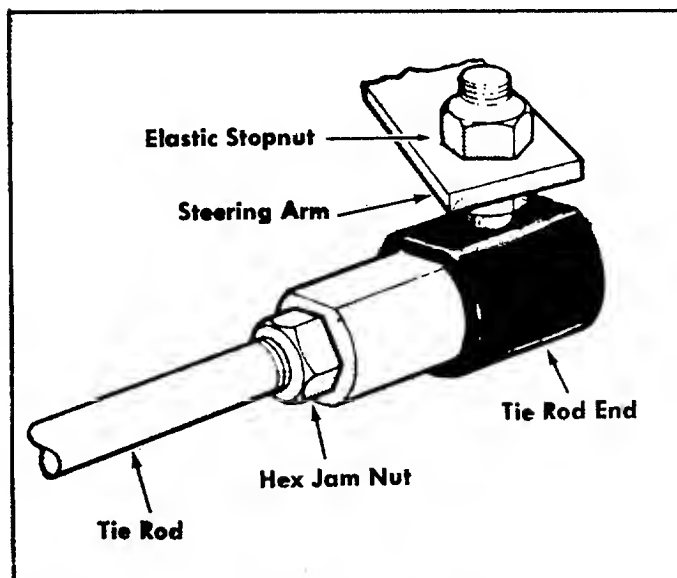

FIGURE 22. TIE ROD ADJUSTMENT
1. Remove the elastic locknut and drop the tie rod end from the wheel bracket. See figure 22.